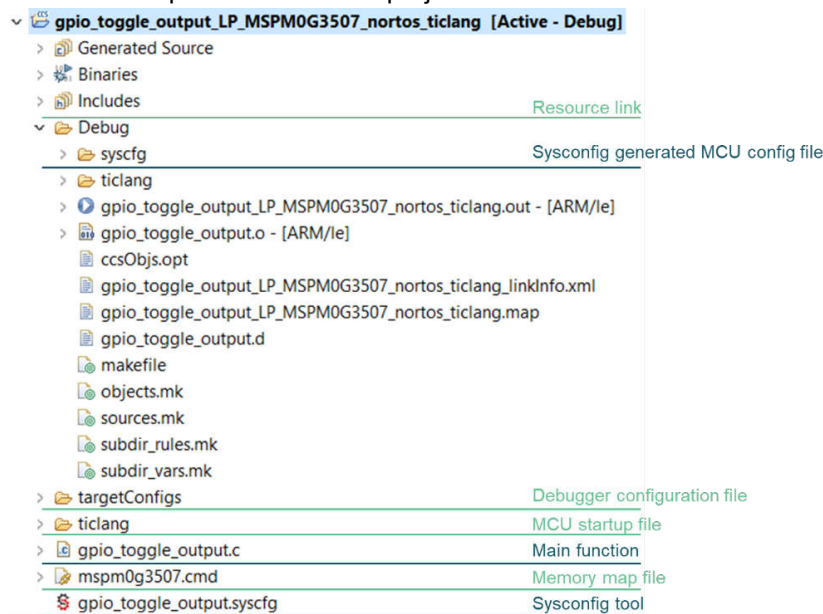

Figure 2-32. CCS Project Overview
- Figure 2-32 shows the most important files in the project.